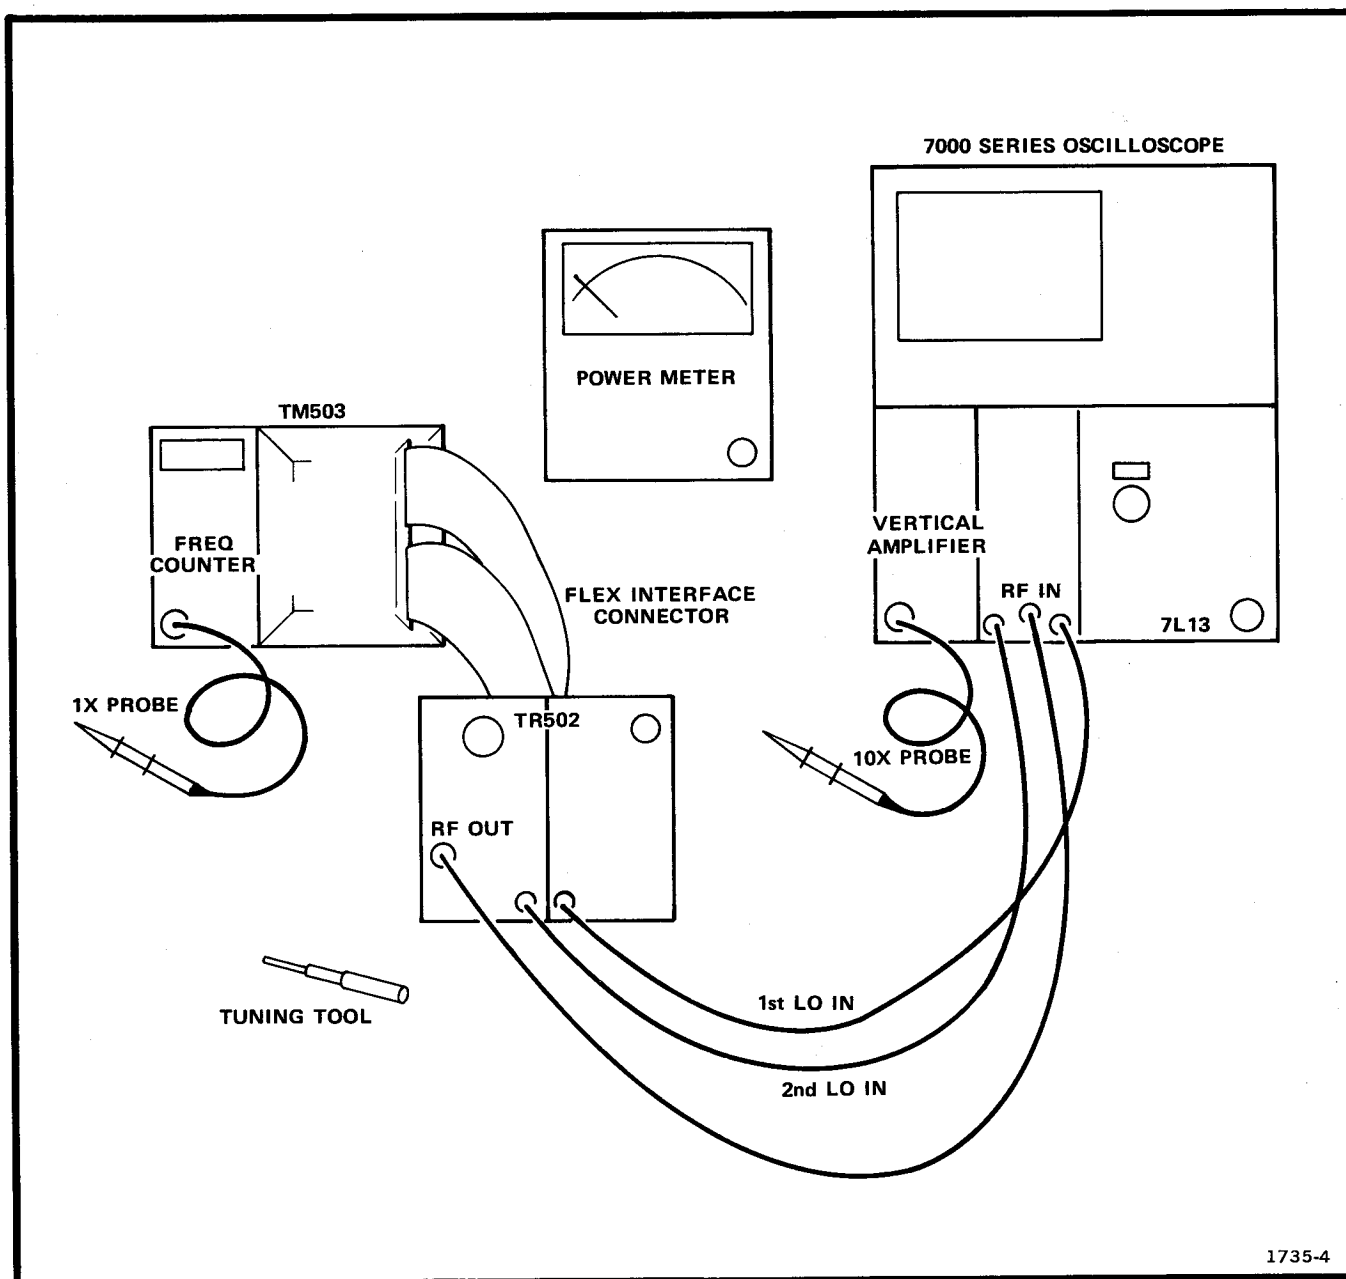

Fig. 4-1. Setup for Calibration.
b. Turn the power to the TR 502 off. Remove the TR 502 from the TM 500 mainframe and connect it through a flexible plug-in extender to the mainframe interface connector. Fig. 4-1 illustrates typical setup for calibration. Turn the power on.